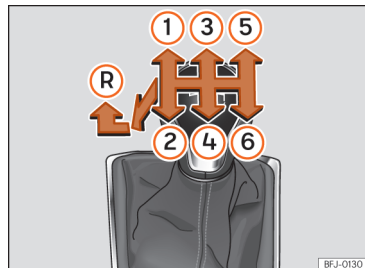

Fig. 118 Diagram of a 6-speed manual gearbox.
Gear positions are indicated on the gear lever **>>> Fig. 118**.
- With the gear lever in neutral, push it down, move it all the way to the left and then forwards to select reverse gear »» Fig. 118 (R).